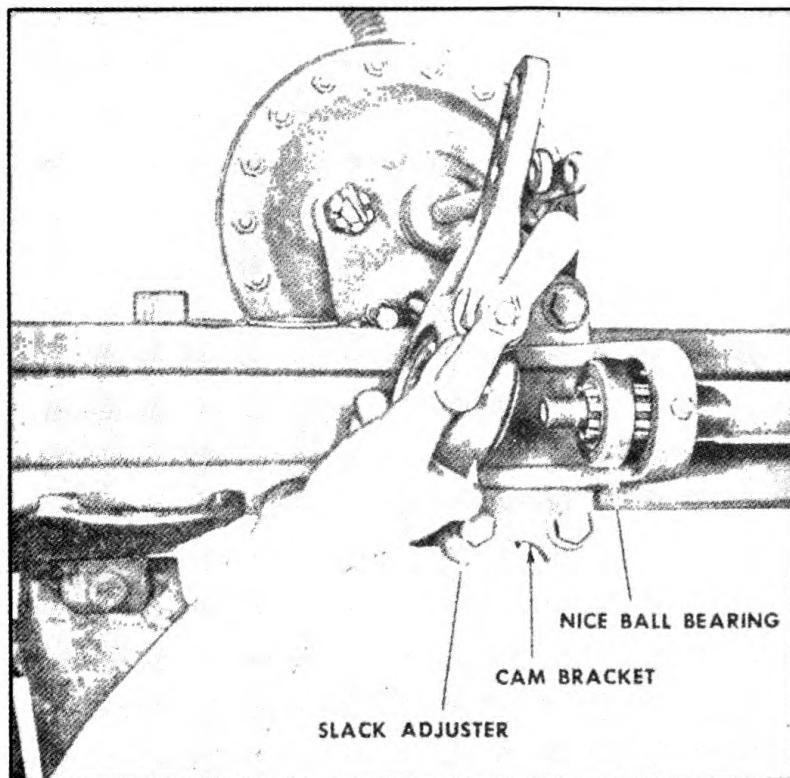

FIGURE 23. REMOVING NICE BALL BEARING
(2) Place the new needle bearings into position and tap gently to start them evenly.
(3) Place pieces of flat wood against both brake adapter and bearing and squeeze the bearing into position with a C-clamp. Bearings should be flush with the outer edges of the adapter.
(4) Inspect to make sure bearings do not cover lubricating hole.
*d. Replacing Nice ball bearing in cam bracket, front only.*—(1) Remove the slack adjuster. (See Cam Replacement instructions.) (Figure 23).
(2) Tap the outer side of the cam bracket and the ball bearing will usually work out.
(3) If this fails, remove the Alemite fitting, insert a small screwdriver in the Alemite fitting hole and pry outward against the bearing. Continue tapping the cam bracket with a small hammer.